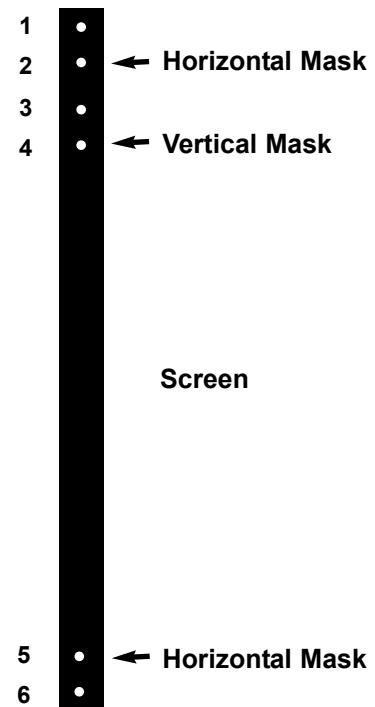

Figure 14: DOWN limit switches are 2, 4, and 5.
The limit switches are located on the head of the motor and can be accessed through openings located on the left side of the frame, as shown in Figure 14.
The UP limit switch(es) retract the batten(s) further into the unit. Adjusting them is not advised. Refer to 1, 3, or 6 as appropriate in Figure 14.
2. Locate the down limit switch(es) located on the left side of the frame. Refer to 2, 4, or 5 as appropriate in Figure 14. Use a screwdriver to turn the switch in a clockwise direction.